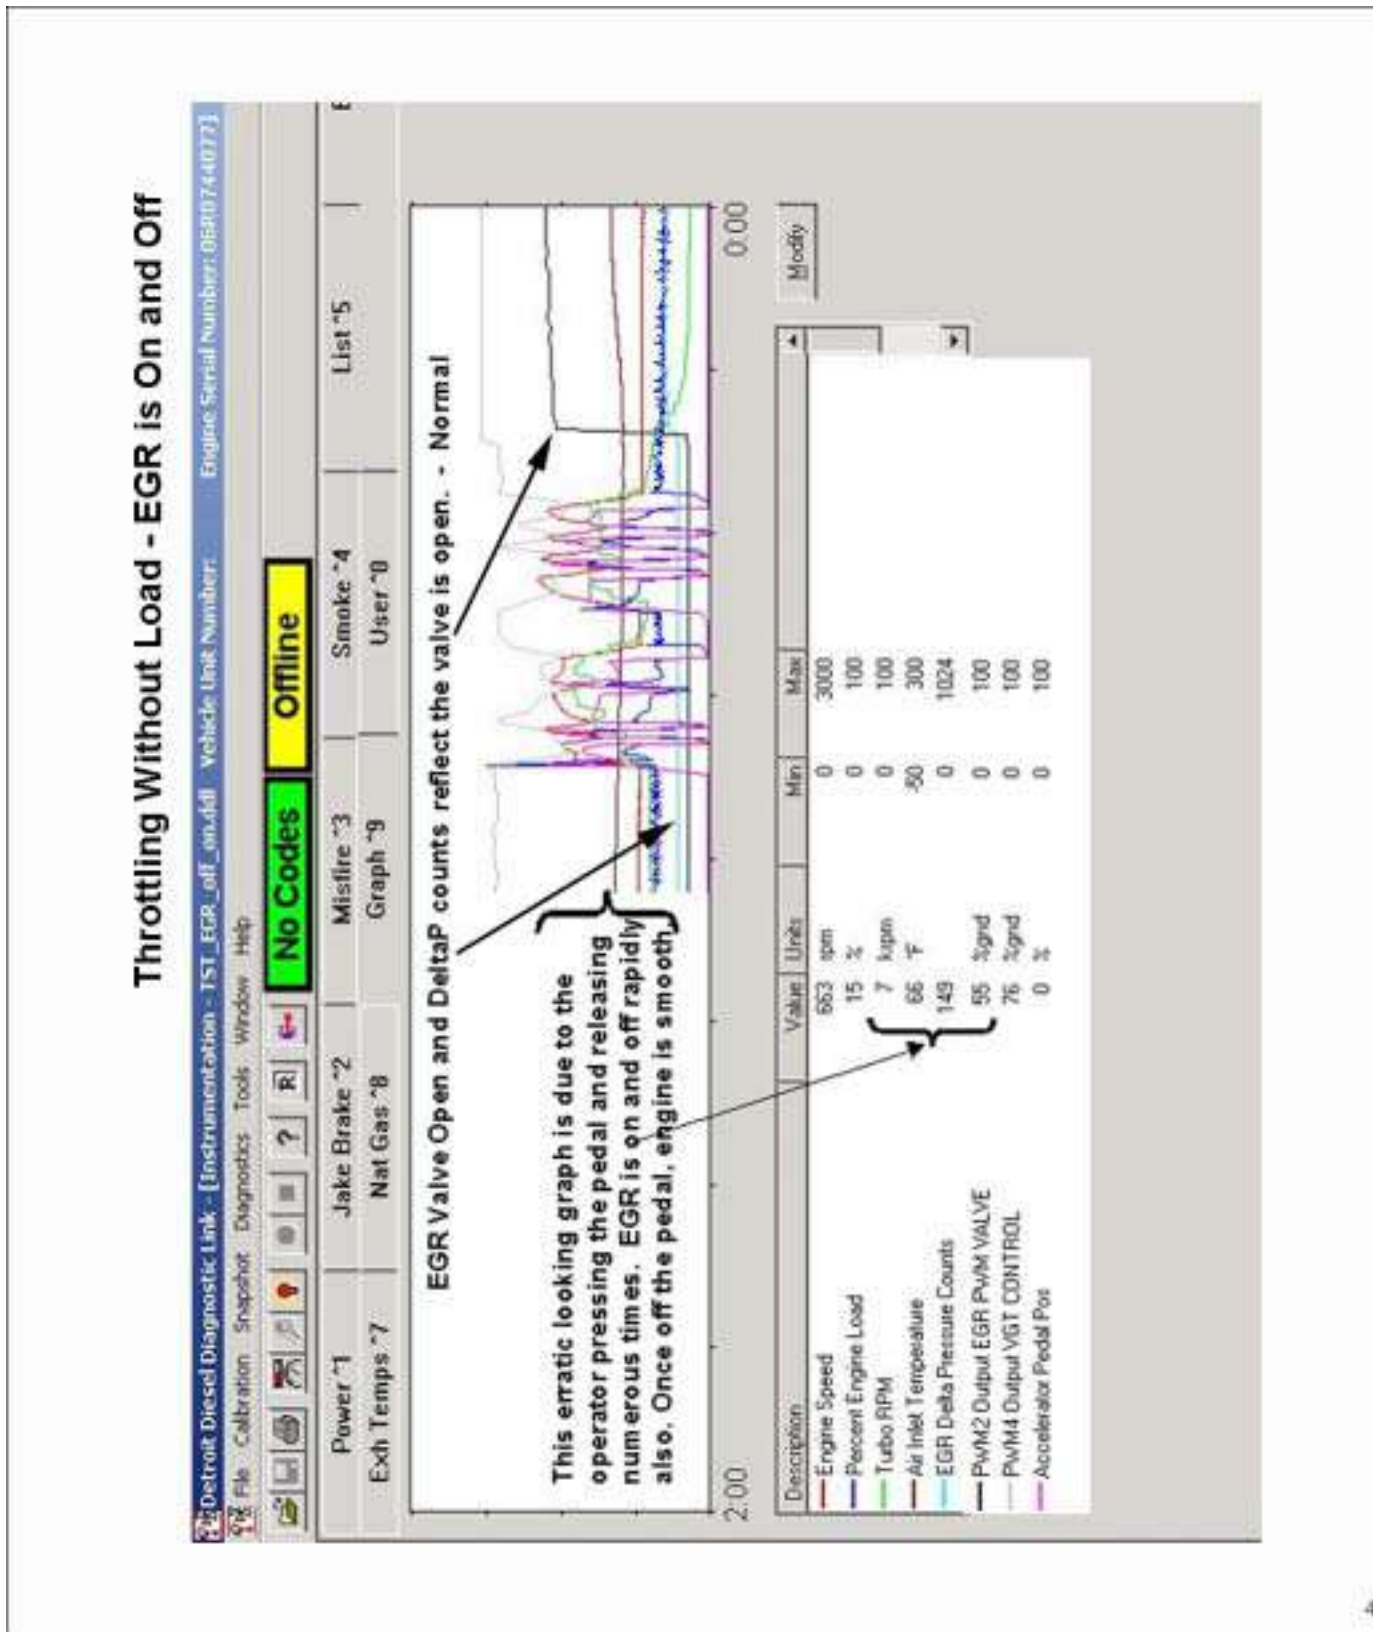

Figure 7-3 Throttling Without Load — EGR is On and Off
- ☐ Throttling without load, EGR is on and off. See Figure 7-3.